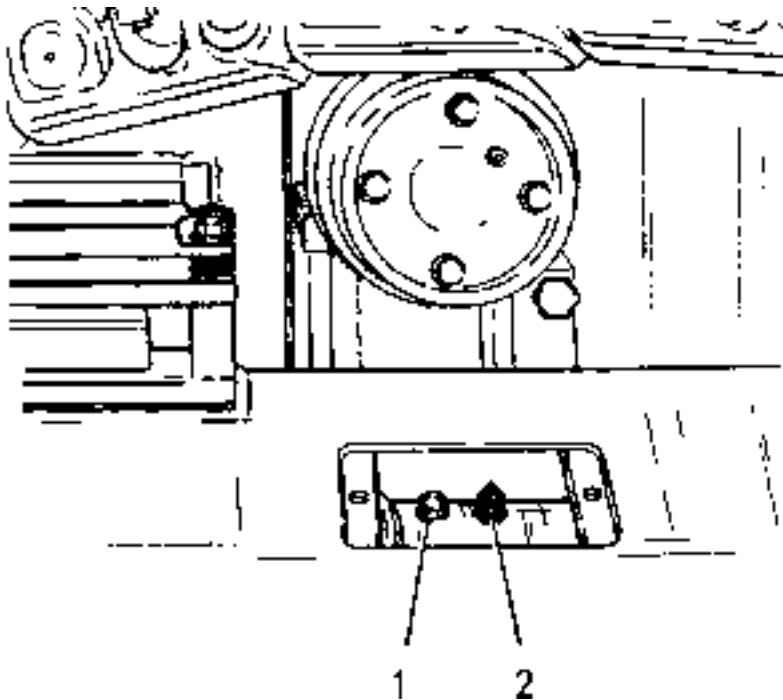

Fig. 5.51. Track Adjuster
5.19.4. ADJUSTING TENSION (Fig. 5.51)